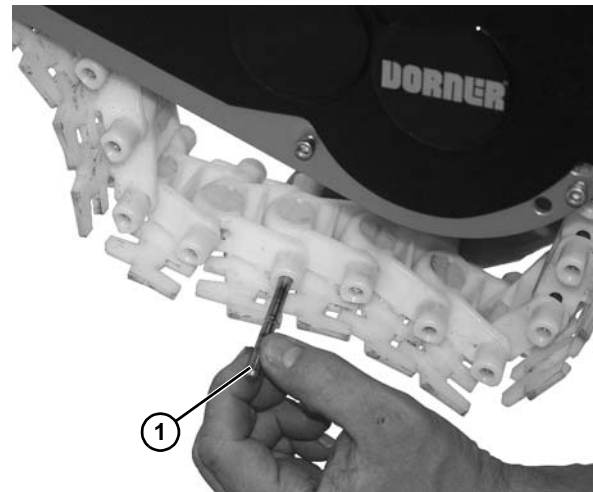

Figure 29
1. Use a punch and hammer or belt removal tool #203480 to push the belt rod (Figure 29, item 1) out by striking the rod end.